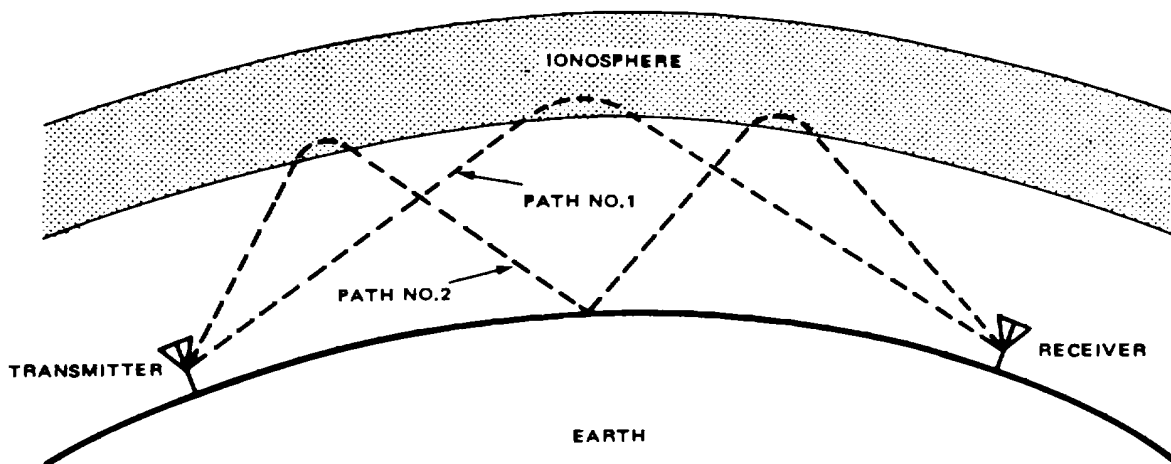

Figure A2-2. Skywave Propagation
**A2-8 SKYWAVE (Figure A2-2).** Skywaves (ionospheric waves) are basically direct waves that have been reflected (skipped) back to earth by the ionosphere. The ionosphere exists at altitudes between 30 and 300 miles and consists of several layers of ionized gases. These gases are ionized by several factors, the primary of which is ultraviolet radiation; the greater the level of ionization the more reflective the ionosphere will be. The ultraviolet radiation level is directly proportional to the amount of sunspot activity and is predictable with a high degree of accuracy. This reflective power of the